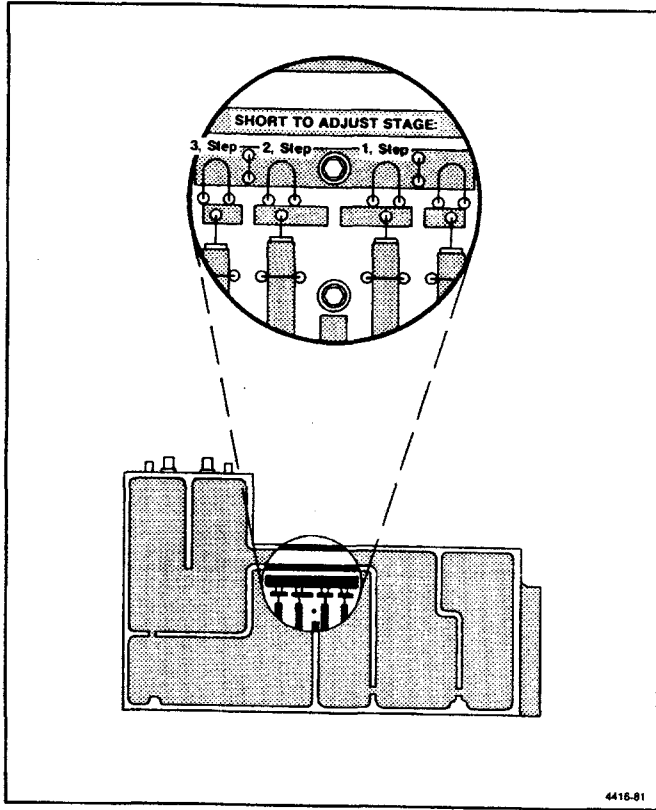

Figure 6-15. 829 MHz Converter filter tune tabs.
f. Adjust the  $1/4$  wavelength lines in the filter in sequence, starting with the resonator at the 829 MHz input (see Figure 6-15). Adjustment is made by shorting the adjacent resonator to ground with a low inductance conductor, such as a broad blade screwdriver, then bend the loop or tab of the respective stub with a non-metallic tuning tool to change the series capacitance of the resonator.